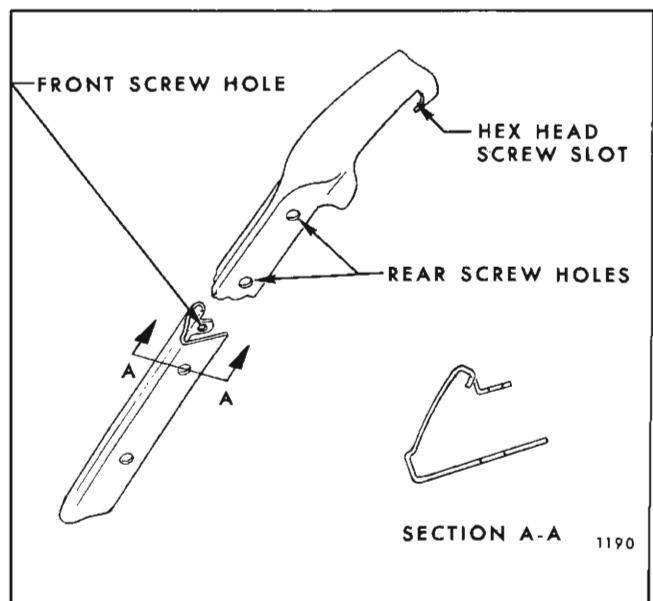

Fig. 1C5—Windshield Pillar Finishing Molding
1. Remove windshield pillar weatherstrip retainers. Remove finishing molding attaching screws at rear (Fig. 1C5).